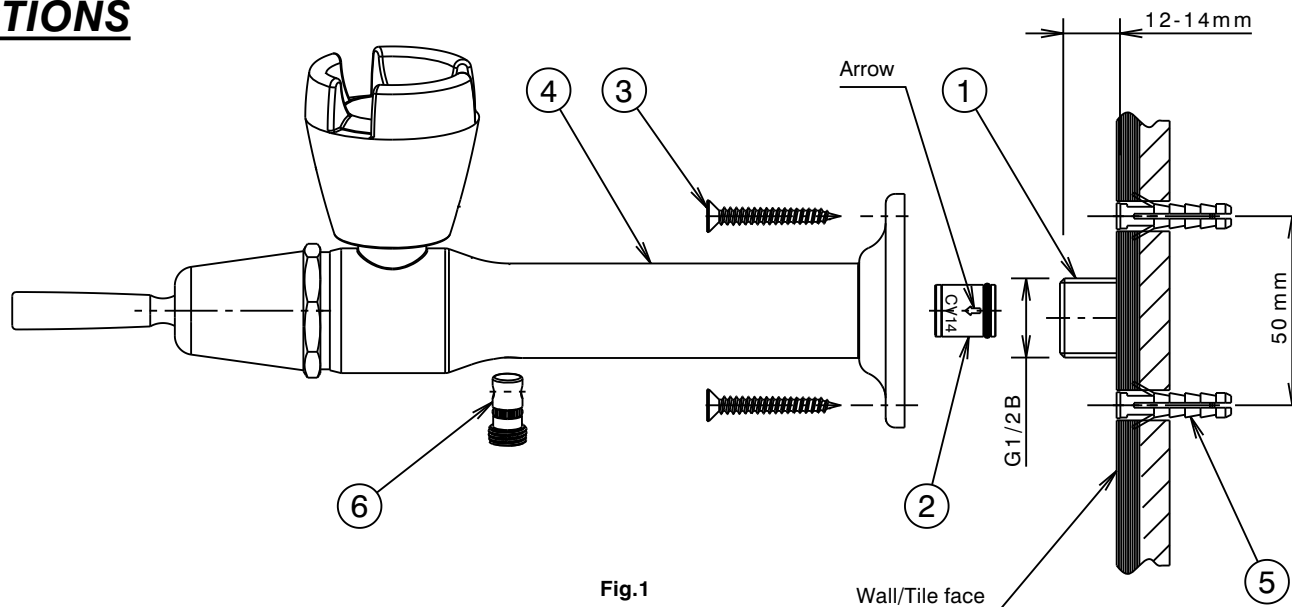

Fig.1
- 1) Check that threaded nipple (1) is the correct length, as shown in Fig. 1. Cut to length if required ensuring end face is square. Apply thread tape to the thread.